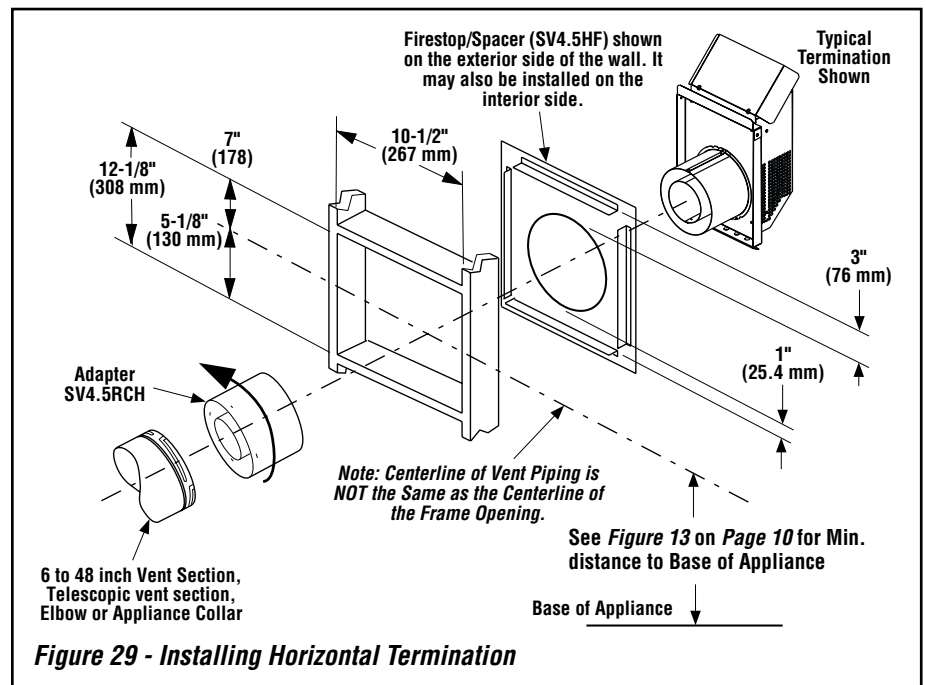

Figure 29 - Installing Horizontal Termination
See **Figure 28** on **Page 18**, and **Figures 29 through 34** on **Pages 19 through 22** and their associated Horizontal Vent Table which illustrate the various horizontal venting configurations that are possible for use with these appliances. **Secure Vent™** pipe applications are shown in these Figures; **Secure Flex™** pipe may also be used. A Horizontal Vent Table summarizes each system's minimum and maximum vertical and horizontal length values that can be used to design and install the vent components in a variety of applications.
K. Attach termination adaptor - Attach the adaptor (SV4.5RCH - provided with the termination) to the vent section or telescoping vent section, elbow or appliance collar as shown in **Figure 29** in the same manner as any SV4.5 vent component (refer to **Step E**).
L. Install Firestop/Spacer at exterior wall - When using the termination, install SV4.5HF (**Secure Vent™**), SF4.5HF (**Secure Flex™**) Firestop/Spacer over the opening at the exterior side of the framing, long side up, with the 3 inch spacer clearance at the top as shown in **Figure 29**, and nail into place.